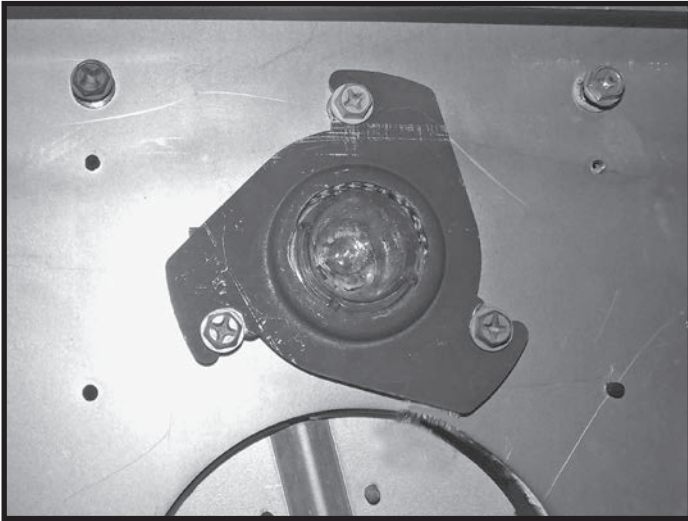

Figure 110: Light fixture.
4. Loosen the 3 bolts (It is not necessary to remove them) holding the lamp assembly plate (Figure 110) twist the plate clockwise and remove.